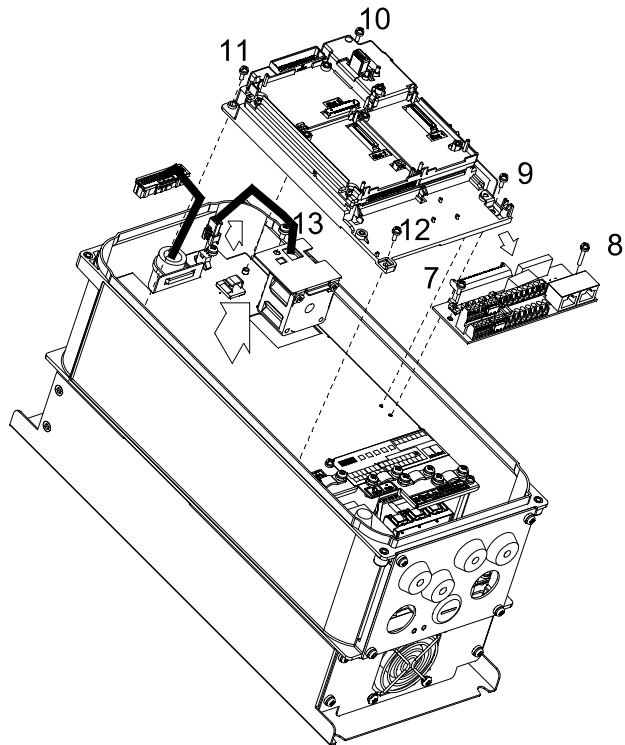

Figure 3
3. Loosen the screws 7-13 then remove the fan kit. (Refer to Figure 3)